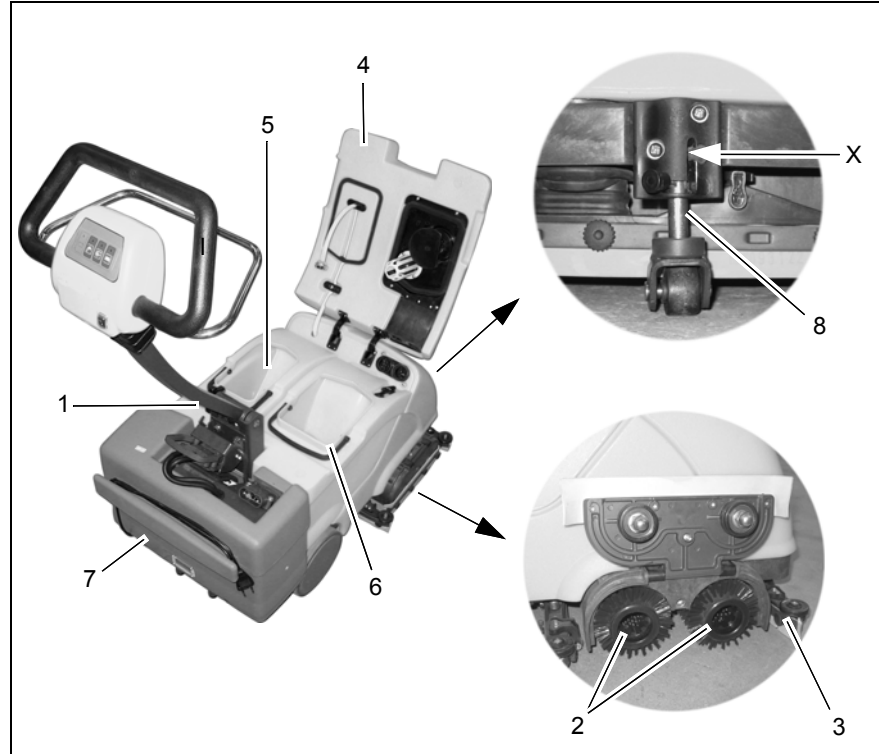

Fig.5
- Brushes in the brush head (Fig. 5/2)
- Sealing strips on the squeegee (Fig. 5/3)
- Solution filter, air intake filter and seals in the housing cover (Fig. 5/4).
2. Check the fill level of the solution tank (Fig. 5/5), refill as necessary. Add cleaning agent as necessary, refer to Section 5.5.1.
3. Check the fill level of the recovery tank (Fig. 5/6), empty as necessary.
4. Raise the brush head by tipping the shaft back and slide the supporting rollers (Fig. 5/8) to the working position (X).